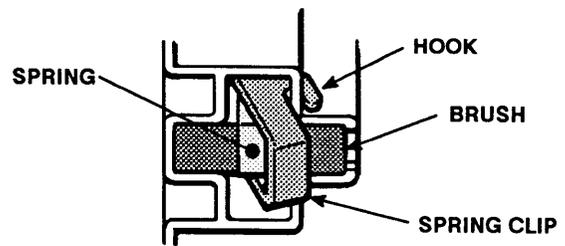

Fig 12
2. Push in the spring clip to release its hooks from the brush holder. Pull out the spring clip. See Fig 12.
7. Install the spring clip and push it down to hook it in the housing. See Fig 12 and 14.